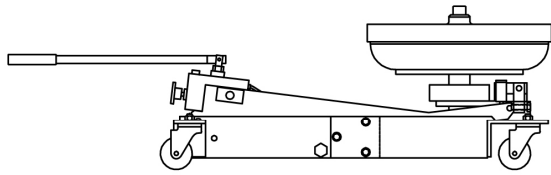

FIGURE 1
3. Remove the clutch mounting bolts and back the Clutch Caddy and clutch away from the flywheel. Lower the Lifting Arm Assembly slightly. Then rotate the clutch to a flat position behind the Pivot Block, as shown in Figure 1.
1. Pivot the Holder Assembly into the position shown in Figure 1 and place the clutch down onto the Splined Shaft. Note: It is easier to "build" the clutch on the Clutch Caddy, one piece at a time.